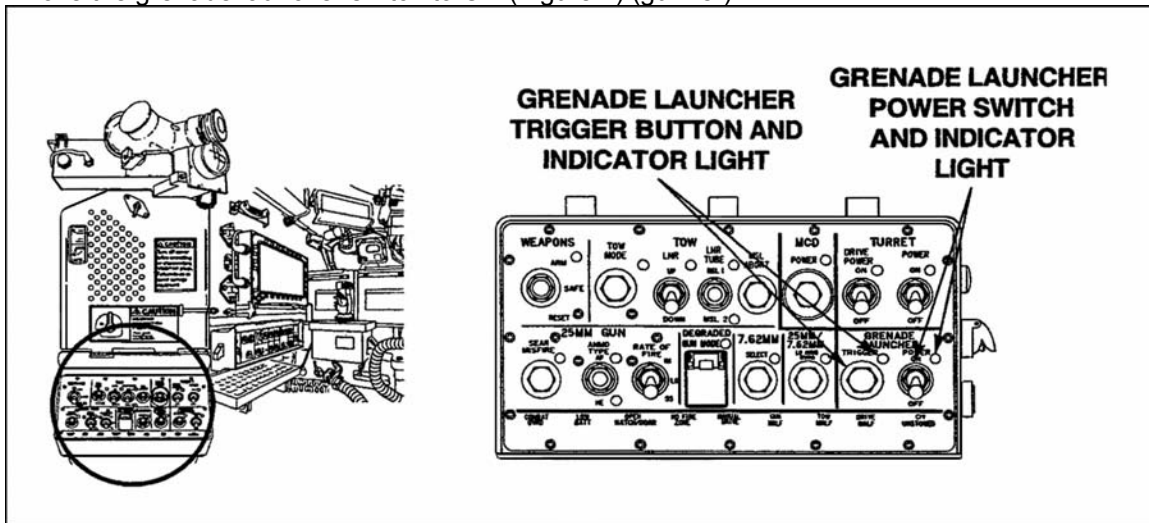

Figure 1. Grenade launcher trigger button.
2. Move the grenade launcher switch to ON (Figure 1) (gunner).